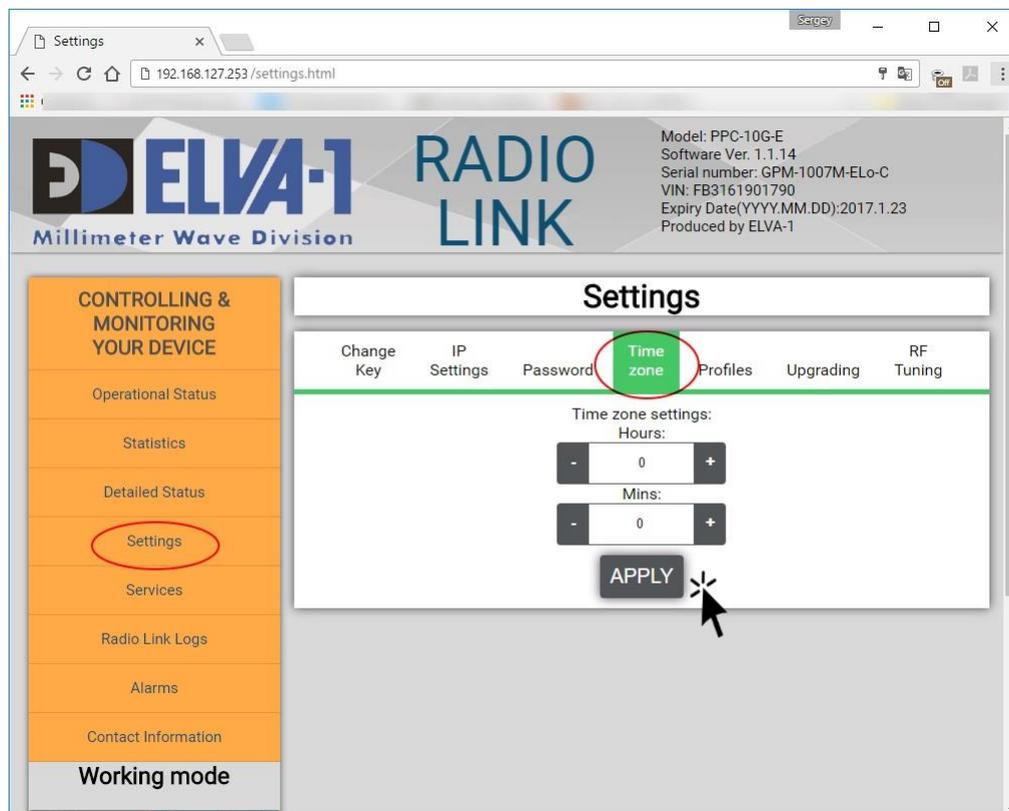

Figure 9: Adjust actual time settings for the radio
- Set the time for radio to actual local time. By default, “UTC 0” time zone is used. For this, choose **Settings** on left menu, then **Time zone** tab at top. Adjust hours and minutes to local time, then click **Submit** button (Fig.9).